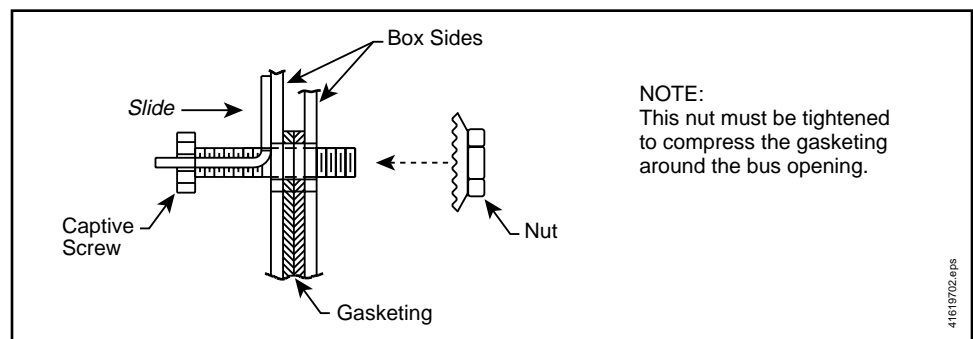

Figure 2: Installing the Nut onto the Captive Screw
4. Slide the captive screw through the hole in the box side and gasketing until the threads engage in the nut (provided in the bag assembly). See Figure 2. Tighten the nut to 50 lb-in (6 N•m).